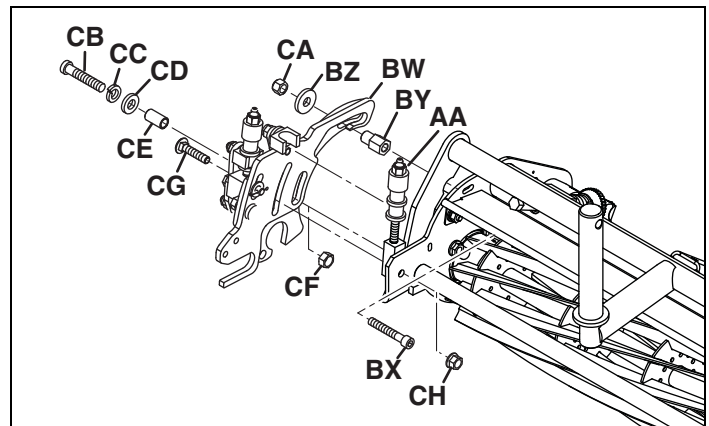

Figure 6
14. Remove nut (CA), screw (BX), spacer (BZ), nut (CF), hardware (CB~CE), flange nut (CH) and carriage bolt (CG). Discard nut (CF). Hold driven side assembly (BW) together until assembled to the reel. **See Figure 6.**
15. Assemble 5/16-18 x 2" hex socket screw (BX) and hex spacer (BY) to the reel frame. Tighten the hex spacer against the reel frame. Assemble driven side assembly (BW), 7/8 x 1/8" spacer (BZ), and nylon locknut (CA) to reel. Make certain adjuster bracket engages bottom notch in adjuster knob (AA). **See Figure 6.**
**Note:** For easier assembly, loosen grass shield mounting hardware to install socket head screw (BX).
16. Assemble 3/8-16 x 2" hex socket screw (CB), lockwasher (CC), flat washer (CD) and 1/2 x 29/32" spacer (CE) through driven assembly (BW), lift yoke and into reel frame. Adjust driven side assembly (BW) as required to assemble 5/16-18 x 1-1/2" carriage bolt (CG) and flange nut (CH). **See Figure 6.**